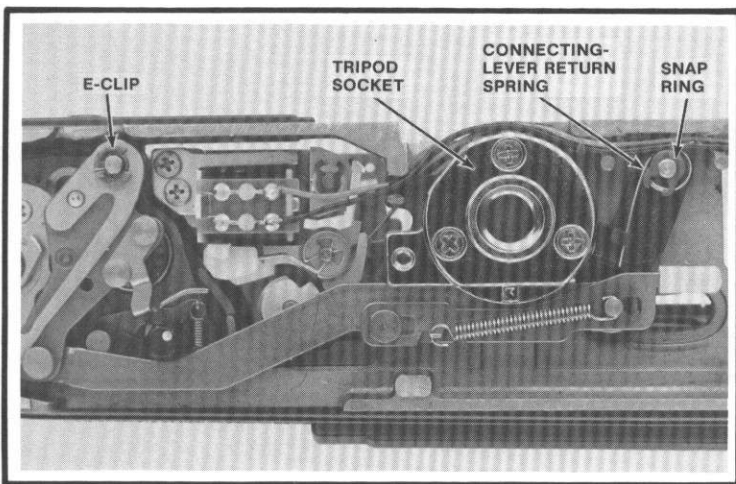

Figure 66
1. Remove the tripod socket, Fig. 66.
2. Remove the snap ring from the rewind end of the connecting lever, Fig. 66.
3. Disconnect and remove the connecting-lever return spring, Fig. 66.
4. Remove the E-clip from the wind end of the connecting lever, Fig. 66.